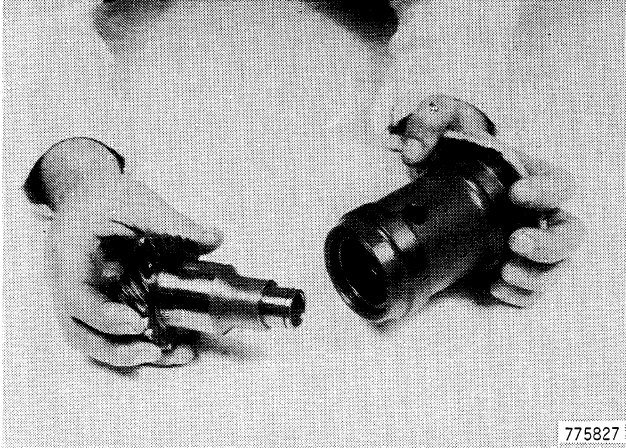

Figure 81
2. Pull the drive gear from the housing, Figure 81.